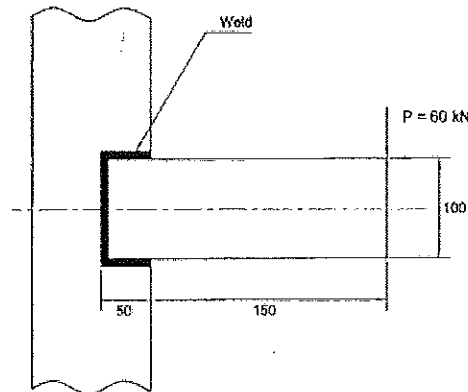

Fig.Q4 (dimensions are in mm)
- a. List three (3) advantages and three (3) disadvantages of Welded joints over Riveted joints. [6 marks]
- b. A rectangular plate shown in the Fig.Q4 made out of steel is of 200mm length and 100mm in deep. The plate is welded as a cantilever to a vertical column and supports a single concentrated load of 60kN acting at the edge of the plate. Determine the size of the weld needed to hold the load. The maximum shear stress of the weld material  $140\text{MN/m}^2$ . [19 marks]